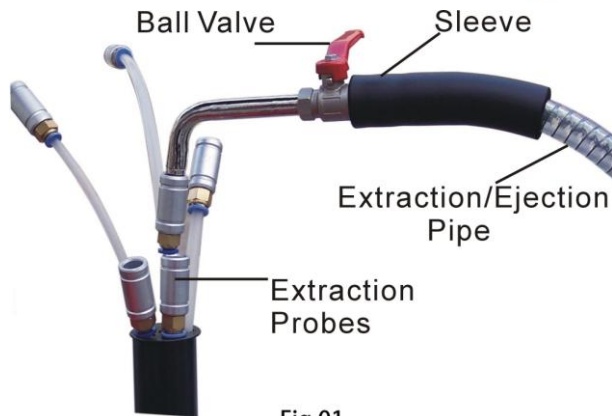

Fig.01
1. Choose suitable probe (which is the largest diameter one can be inserted into the engine) and tightly connect it to the extraction pipe connector. (refer to Fig.01)
3. Turn on the ball valve (Fig.01)
6. After finish extraction, turn off the extraction ball valve (Fig.01)
- 1 Turn on valve ③ if vacuum existed in the tank, and then oil from cylinder will be fast transferred into the tank.
- 2 If no vacuum existed in the tank, turn on the ball valve (Fig.01) for helping making a quicker transferring of waste oil into the tank.
- 3 Turn off valve1 and ball valve (Fig.01) after ejection finished.